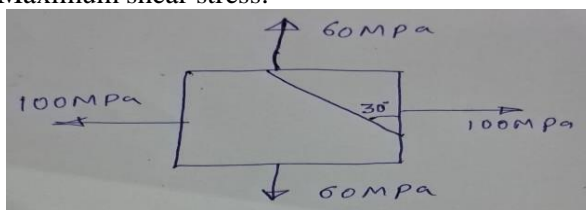

Fig. Q7(b)
- b. For the system shown in Fig. Q7(b) determine: 12 (2:4:1.3.1)